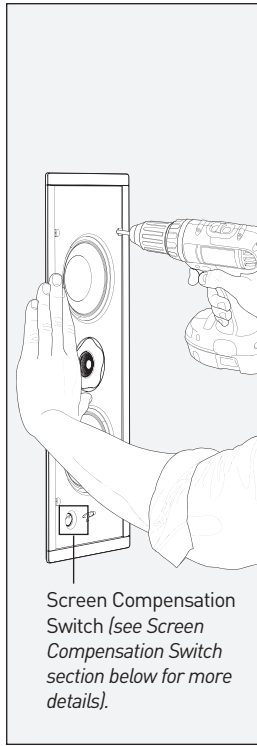

Fig. 1e
- 4) Supporting the assembly with one hand, tighten each screw (Fig. 1e). Stop tightening when you sense resistance. If desired, engage the Screen Compensation Switch (see “Screen Compensation Switch” section on page 7).